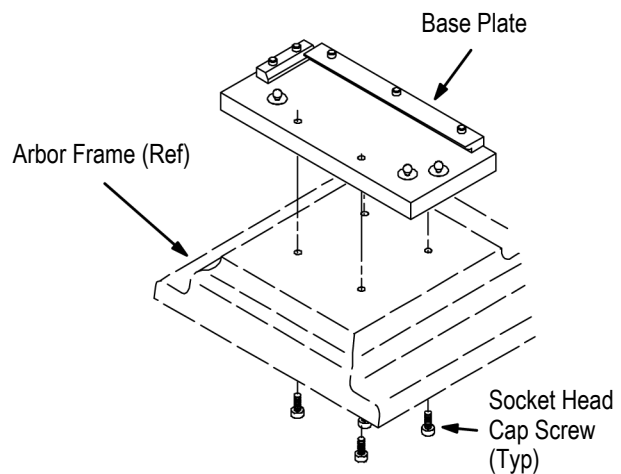

Figure 3
3. Refer to Figure 3 and mount the base plate to the arbor frame with four socket head cap screws. Do NOT tighten the screws at this time.